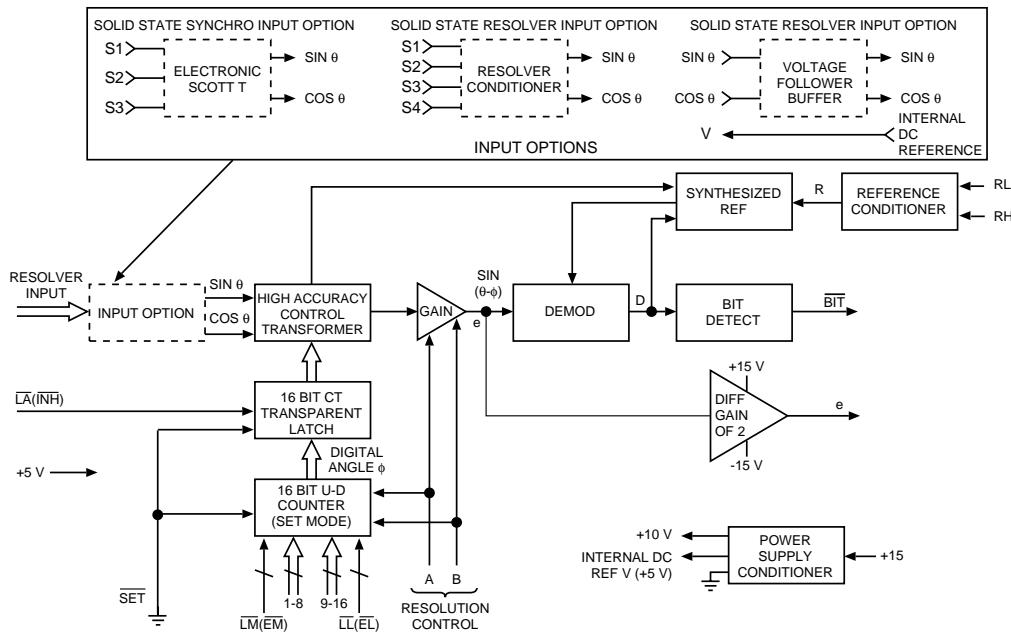

FIGURE 14. CT MODE BLOCK DIAGRAM
FIGURE 14 illustrates a block diagram of the Control Transformer (CT) mode. The procedure to enable this function is to disable the up-down counter by setting \bar{S} (pin 30) to logic "0" and using the digital output lines (which are bidirectional) as digital inputs.